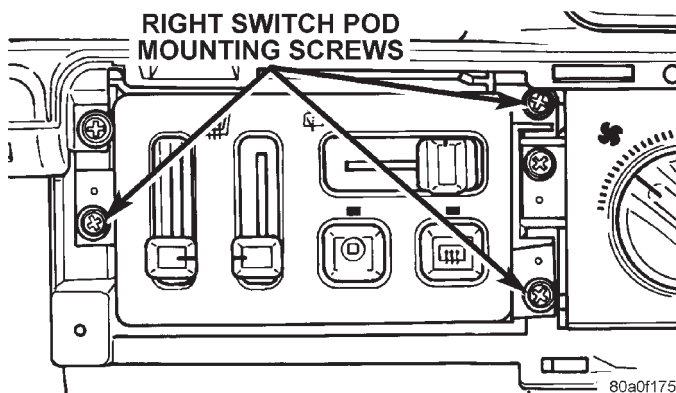

Fig. 3 Right Switch Pod Remove/Install
(1) Disconnect and isolate the battery negative cable.
(2) Using a trim stick or other suitable wide flat-bladed tool, pry gently around the edges of the right switch pod bezel and remove the bezel.
(3) Remove the three screws securing the right switch pod to the instrument panel (Fig. 3).
(4) Pull the right switch pod out from the instrument panel far enough to unplug the wiring connectors.
(5) Remove the right switch pod from the instrument panel.
(6) Reverse the removal procedures to install.